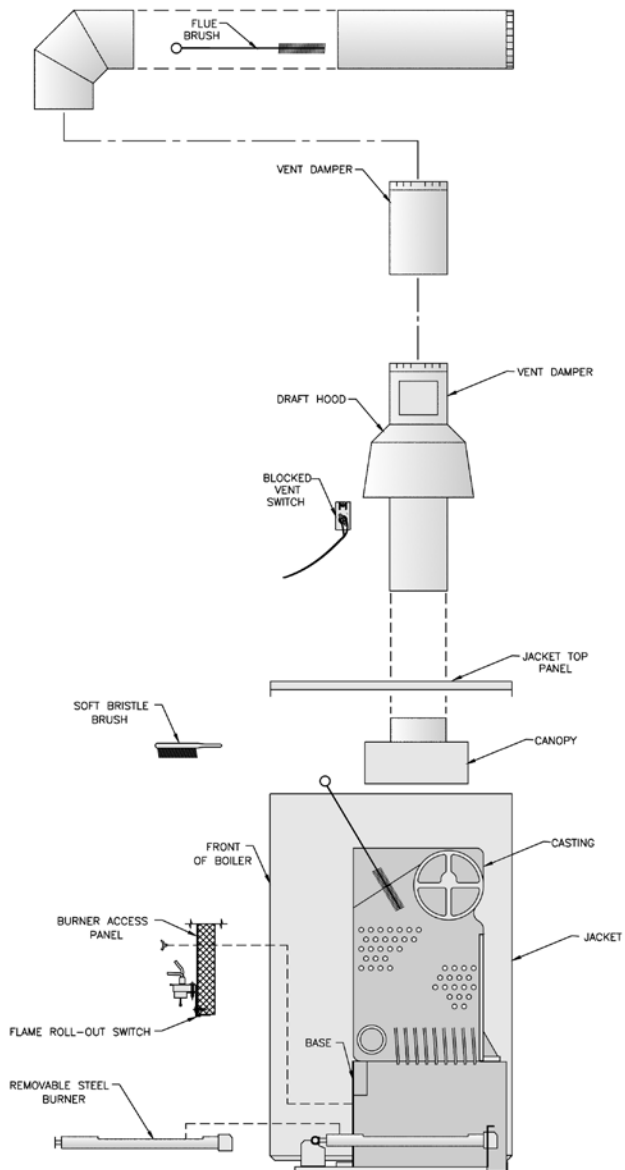

Figure 24: Flueway Cleaning
F. Inspect Boiler Flue Passages for blockage or soot accumulation. See Figure 24.
- b. For Continuous Ignition (Standing Pilot), disconnect thermocouple at gas valve. For Intermittent Ignition (EI), disconnect igniter cable, sensor cable and ground wire at Ignition Module.
2. Brush top of burners with a soft bristle brush. See Figure 24. Vacuum burners.